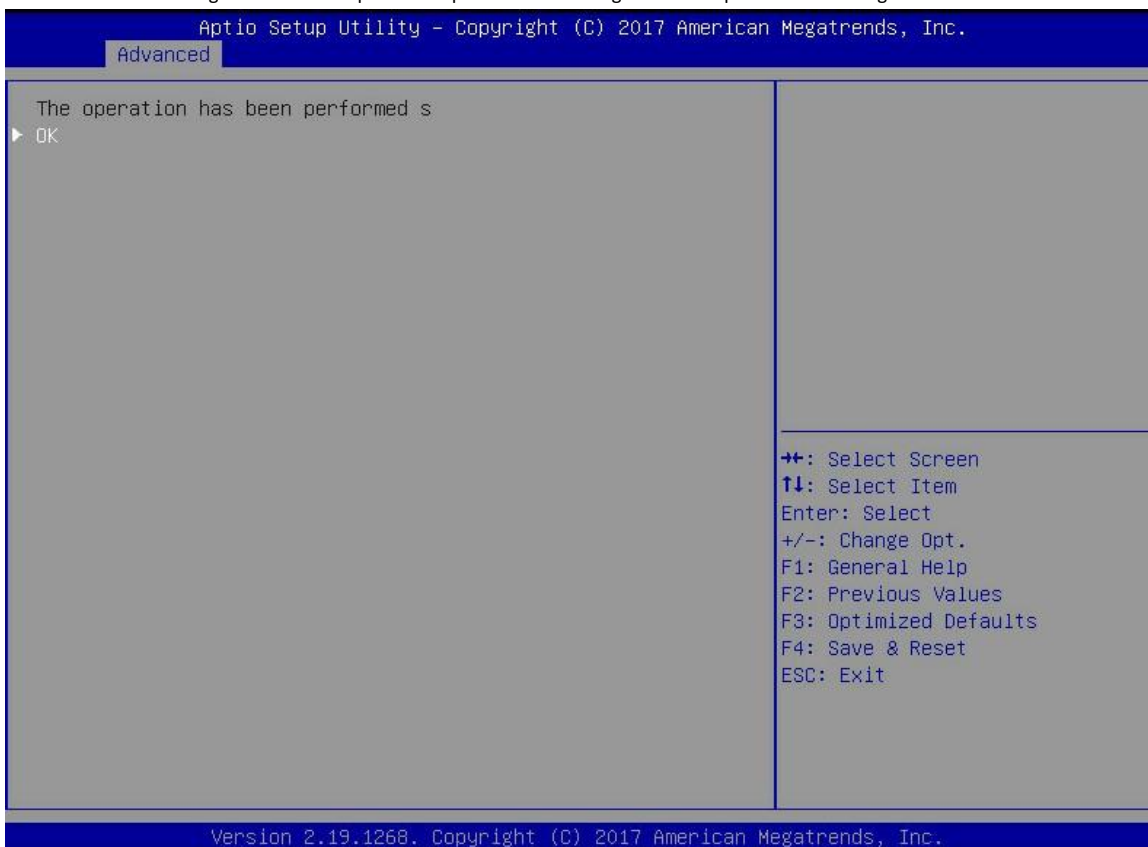

Figure 6-40
- e) Enter the interface shown in figure 6-40 to complete the operation of locating all the disk positions in the logical disk.